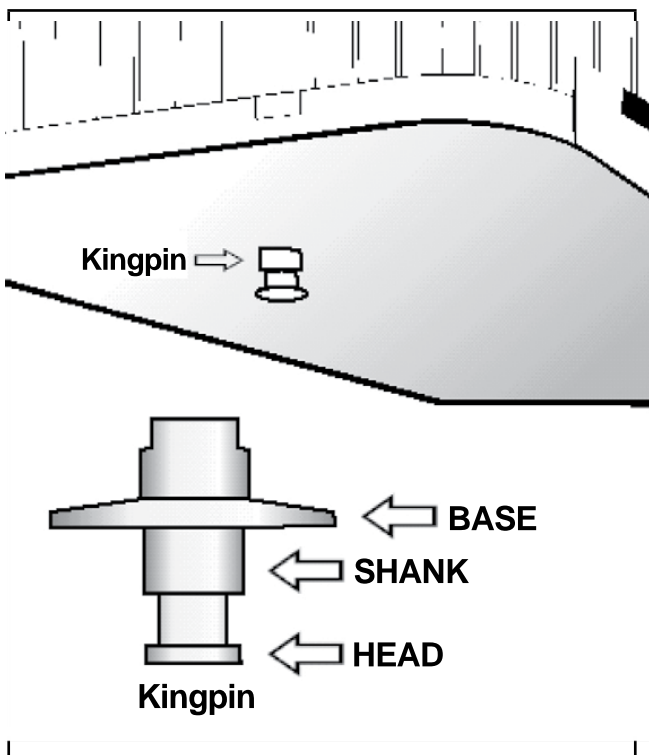

Figure 6.16
- Locking jaws are around the shank, not the head of the kingpin. See Figure 6.16.